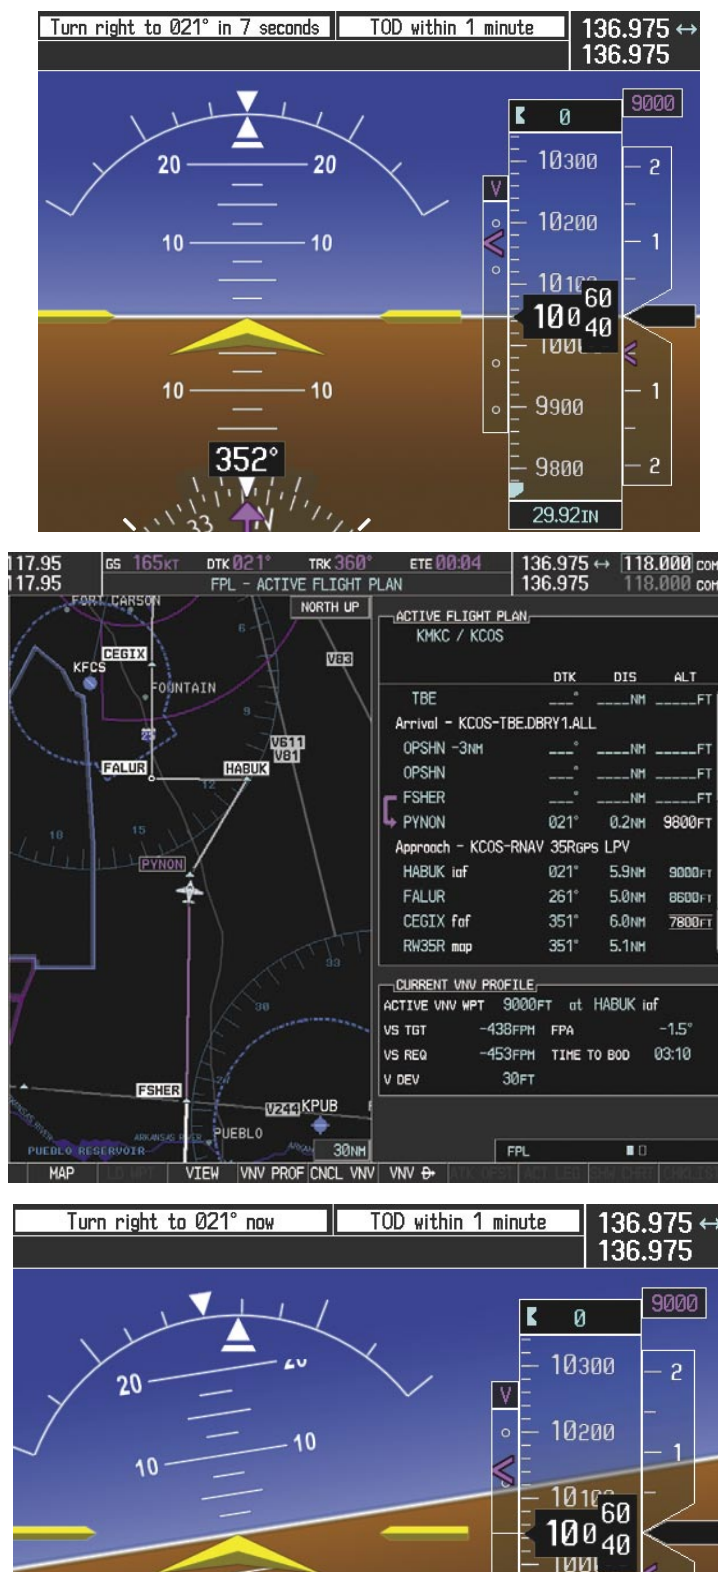

Figure 5-131 Approaching PYNON
- 20) The flight continues through the arrival procedure to PYNON (see Figure 5-131). At a point 31 nm from the destination airport, the phase of flight scaling for the CDI changes to Terminal Mode and is annunciated by displaying 'TERM' on the HSI.